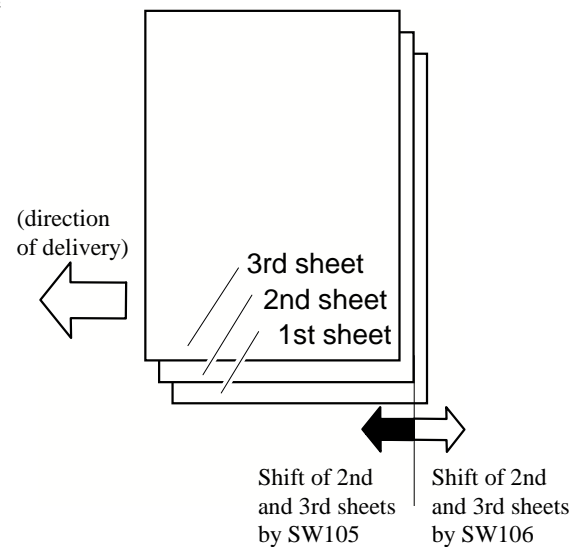

Fig. 4
8. As necessary, press the push switch (SW105 or SW106) on the finisher controller PCB. (See Figure 4.)